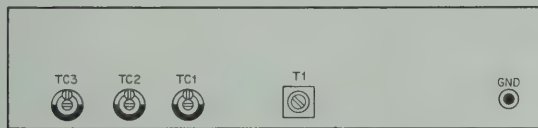
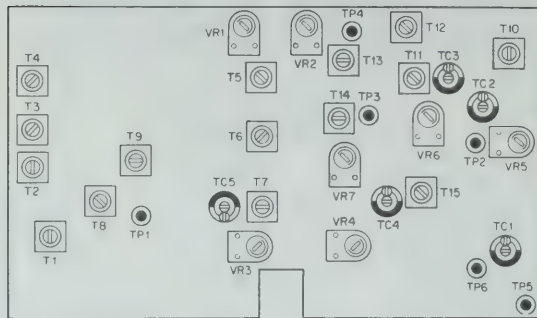
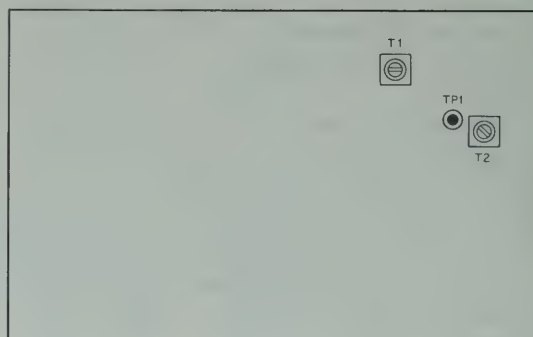

Fig. 21 CAR unit
Fig. 24 IF unit
Fig. 25 RF unit
- 1) Connect RF VTVM to TP5 in IF unit (X48-1150-00) and adjust oscillation coil T1 in CAR-1 unit (X50-1310-00) until the meter reads 50mV (refer to Fig. 21). (refer to Fig. 24 IF unit)
- 2) Adjust T1 to T7 in IF unit (X48-1150-00) and T2 in RF unit (X44-1150-00) until S meter reads maximum value (refer to Fig. 24 and Fig. 25).
- 2) Turn the RF GAIN knob fully counterclockwise and adjust VR3 and TC5 in IF unit (X48-1150-00) alternately until the output becomes minimum (refer to **Fig. 24**).
- 1) After receiving marker signal and turning ON NB switch, adjust T8 and T9 until the terminal voltage at TP1 on IF unit (X48-1150-00) becomes minimum (refer to **Fig. 24**).
- 1) After adjusting each section until sensitivity becomes minimum, adjust VR1 in IF unit (X48-1150-00) under no signal condition, thus making zero point adjustment of S meter (refer to **Fig. 24**).